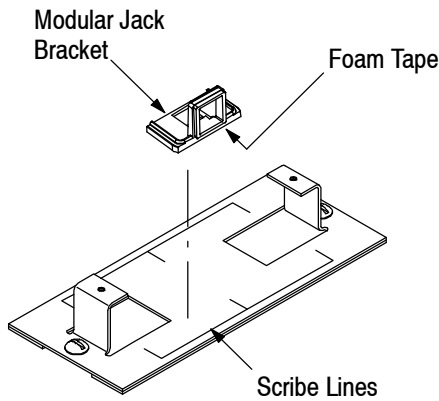

Figure 3
3. Center the modular jack bracket over the scribe lines of the mounting plate, then secure it using the adhesive-backed foam tape (provided with the bracket). See Figure 3.